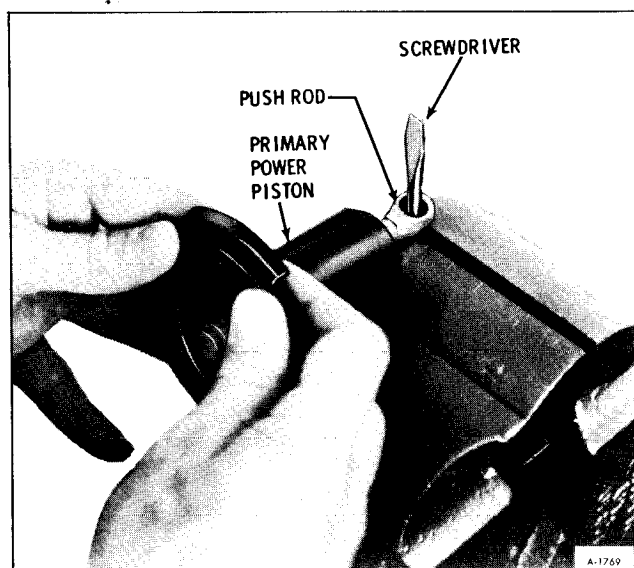

Figure 45—Removing Air Valve Push Rod Assembly
25. Remove the air valve-push rod assembly from the tube end of the primary power piston by pulling on the primary power piston. (figure 45)